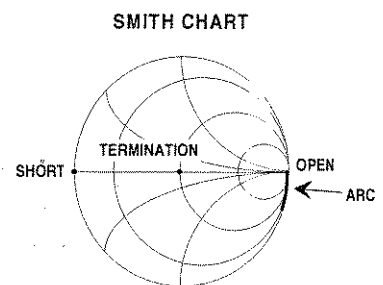

Figure 8-6. *Smith Chart Display 2*
3. *Connect the Open.* An Open appears as an arc on the chart's right edge. This is due to the fringing capacitance of the Open standard (Figure 8-6).